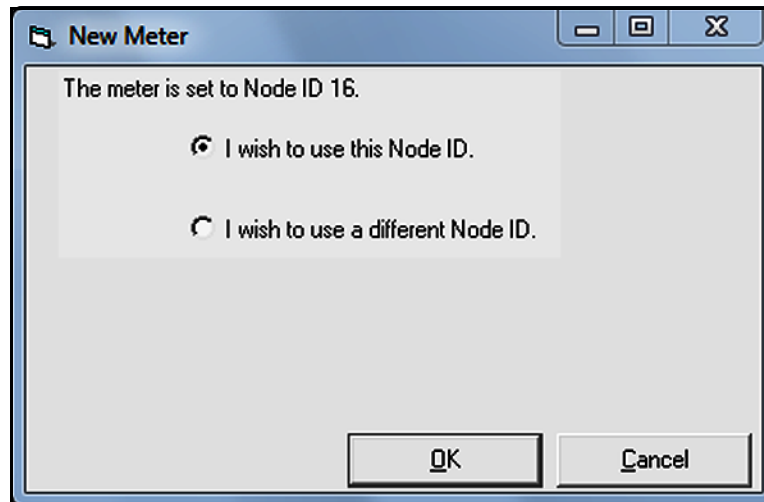

Figure 40: Node ID Confirmation
9. Select the "I wish to use this Node ID" radio button on a dialog box showing the Node ID (16 in this example) of the meter (see Figure 40 below) and then click [OK] button.